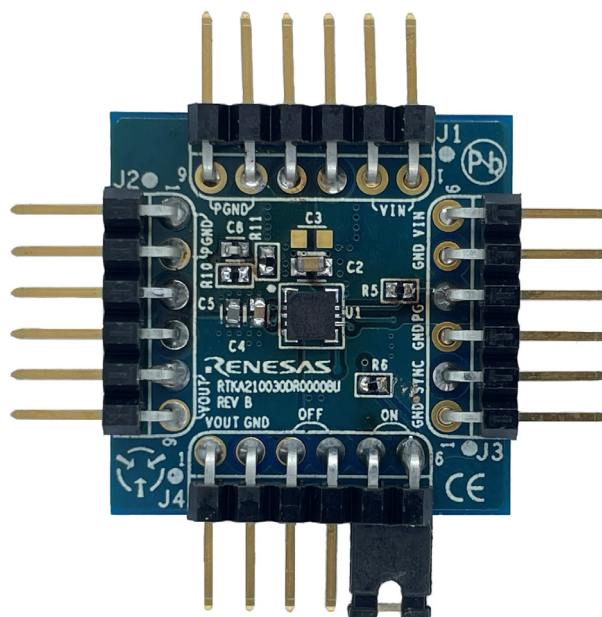
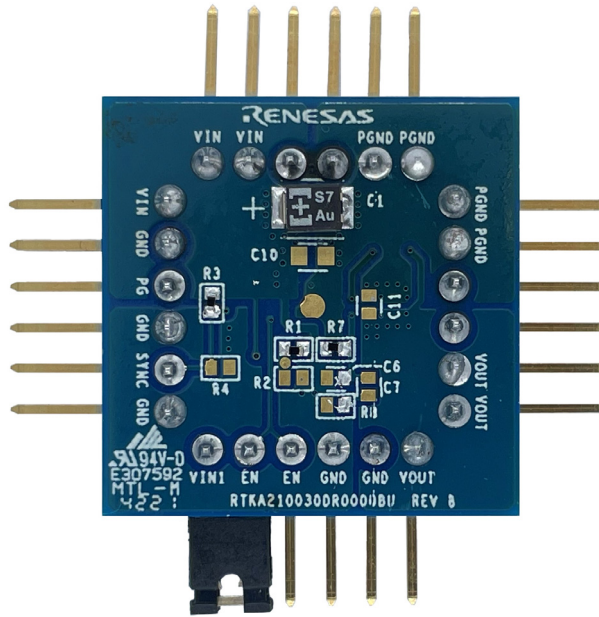

Figure 2. RTKA210030DR0000BU Evaluation Board (Top)
Figure 3. RTKA210030DR0000BU Evaluation Board (Bottom)
The RTKA210030DR0000BU demonstration board (shown in Figure 2 and Figure 3) features the RTKA210030DR0000BU. Capable of delivering up to 3A of continuous current, the RAA210030 is a compact, synchronous step-down, non-isolated complete power supply that is optimized for space-constrained applications. The RTKA210030DR0000BU is based on a peak current mode PWM control scheme that provides a fast transient response and excellent loop stability. The switching frequency is programmable from 500kHz to 4MHz with either the external resistor or synchronization to an external clock through the SYNC pin.
The RTKA210030DR0000BU provides the peripheral circuitry to demonstrate the feature set of the RAA210030. The demonstration board includes several connectors that simplify the validation of the module. The module is enabled and disabled by moving the jumper across the J4.3-J4.6 as shown in Figure 2. Selecting features like external frequency synchronization is performed by removing the pull-up resistor R_3 of the SYNC pin and connecting the signal generator (square pulse waveform clock signal) to J3.2 of the SYNC pin. The output voltage (0.6V - 5V) and the switching frequency (500kHz to 4MHz) are programmed by changing the resistors as shown in Table 1.
1. Disable the module by connecting the jumper across 3 and 4 on J4 for the EN pin as shown in Figure 2 and Figure 7.